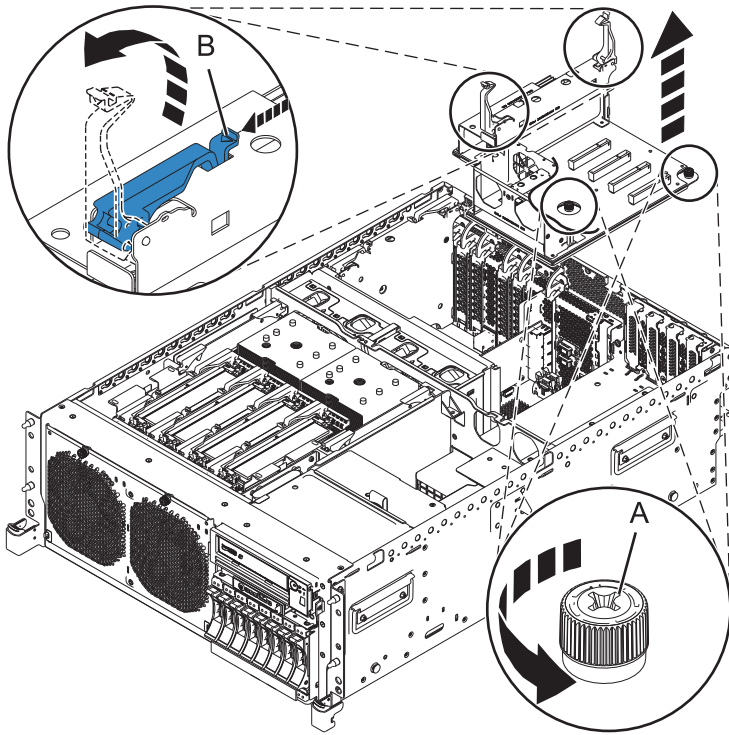

Figure 4. Removing the PCI riser
- a. Loosen the two thumbscrews **(A)** by turning them counterclockwise. See Figure 4 on page 10.